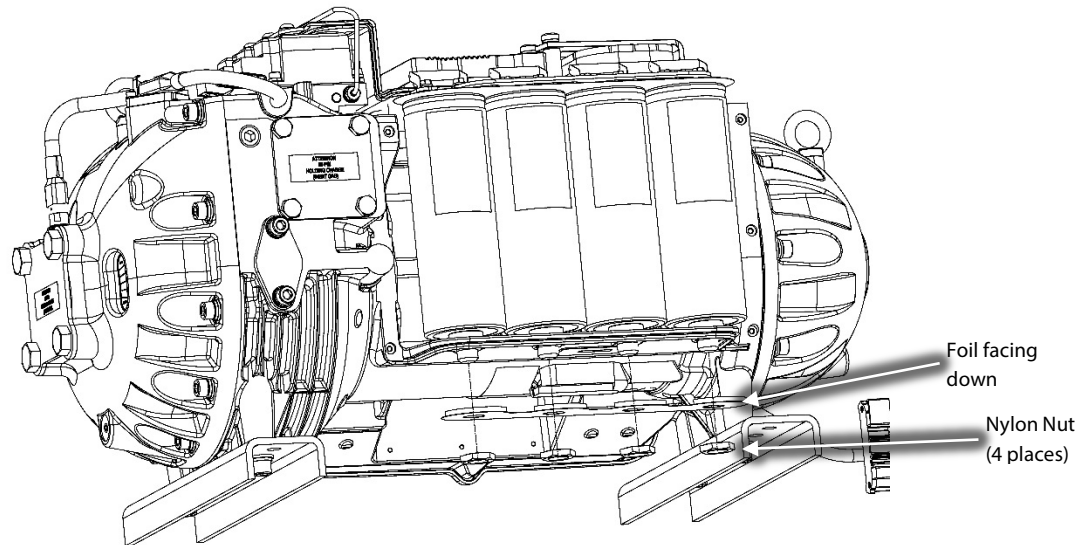

Figure 10 – Capacitor Nut Removal
18. Remove the nylon nuts and foil at the base of the DC capacitor assembly, under the main compressor housing. Refer to Figure 10 (Capacitor Nut Removal).
19. Place the capacitor membrane foil side down, underneath the main compressor housing and then reinstall the nylon nuts to the base of the DC capacitor assembly, under the main compressor housing and torque to 7 Nm (5 ft.lb.). Refer to Figure 10 (Capacitor Nut Removal).